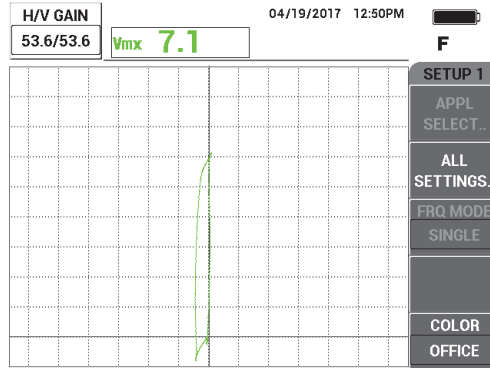

Figure 5-237 Adjusting the gain
4. Press the GAIN key (**dB**), and then increase the gain until the flaw signal reaches about 6 vertical divisions in height (see Figure 5-237 on page 296). If necessary, adjust the ANGLE after you have increased the gain.